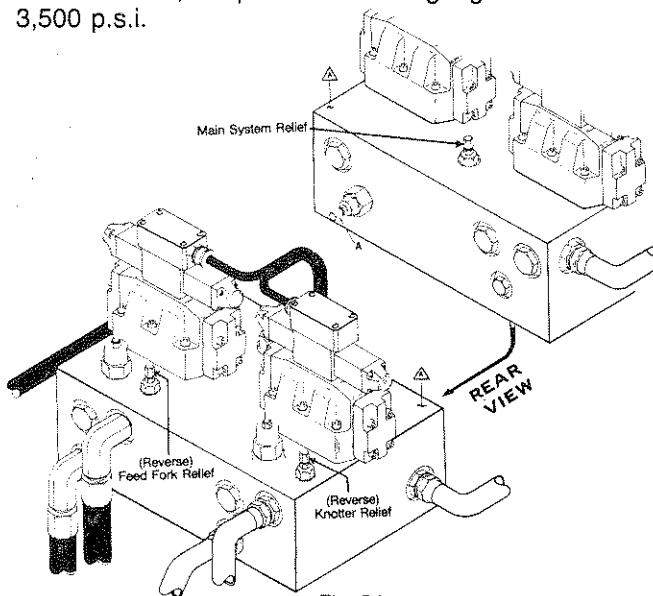

Fig. 54
2. Remove the 1/4 inch JIC cap from gauge port "A", see Fig. 54.
6. Remove the 1/4 inch JIC cap from gauge port "A", see Fig. 54.